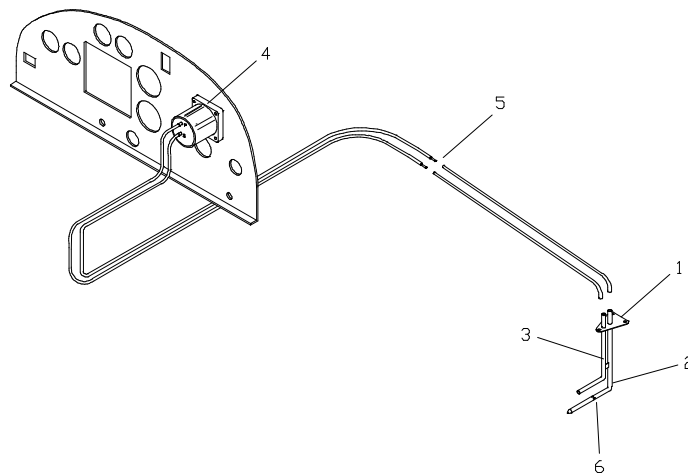

FIGURE E-6 *PITOT AND STATIC SYSTEM*
Referring to figure E-6, system consists of an airspeed sensor assembly (1) mounted below the left wing. The airspeed sensor assembly is made of a Pitot tube (3) and four static ports (6) drilled on a tube (2) parallel to the Pitot. Flexible plumbing connects pitot and static ports to pressure instruments. The airspeed system drainage could be carried out by disconnecting the fittings (5) between the wing and fuselage part of the system.
The heating system (*see Fig. E-6*) exhaust vents are: